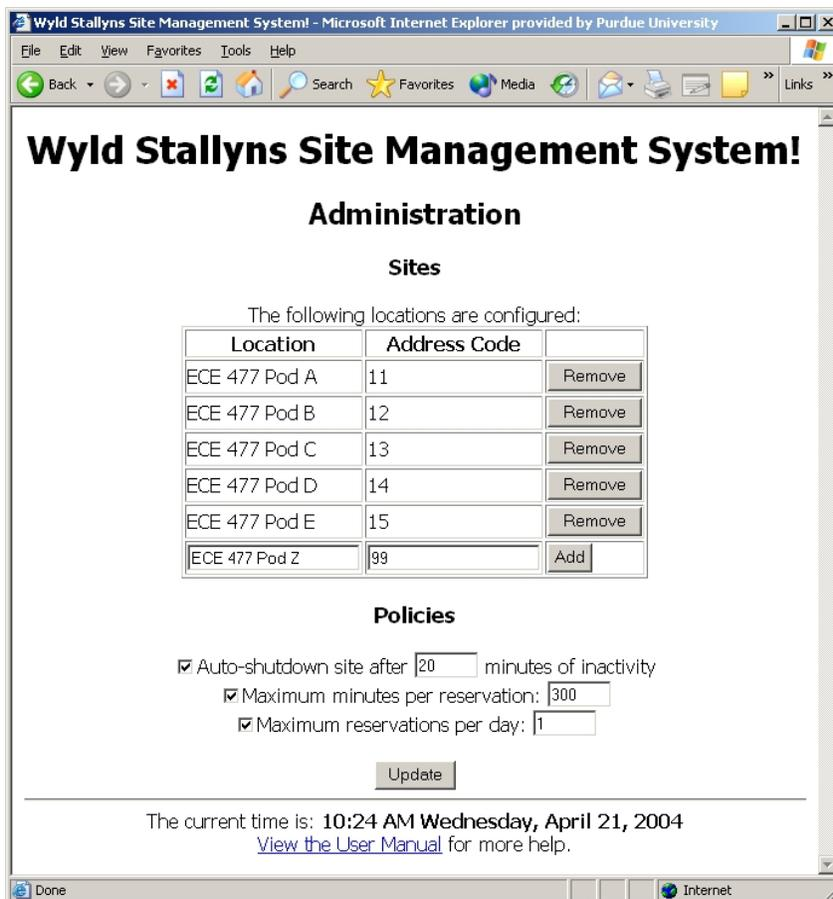

Figure 9: Administrator screen
2. Enter username and password, and click “Log In” button. A screen as in Figure 9 will be displayed.